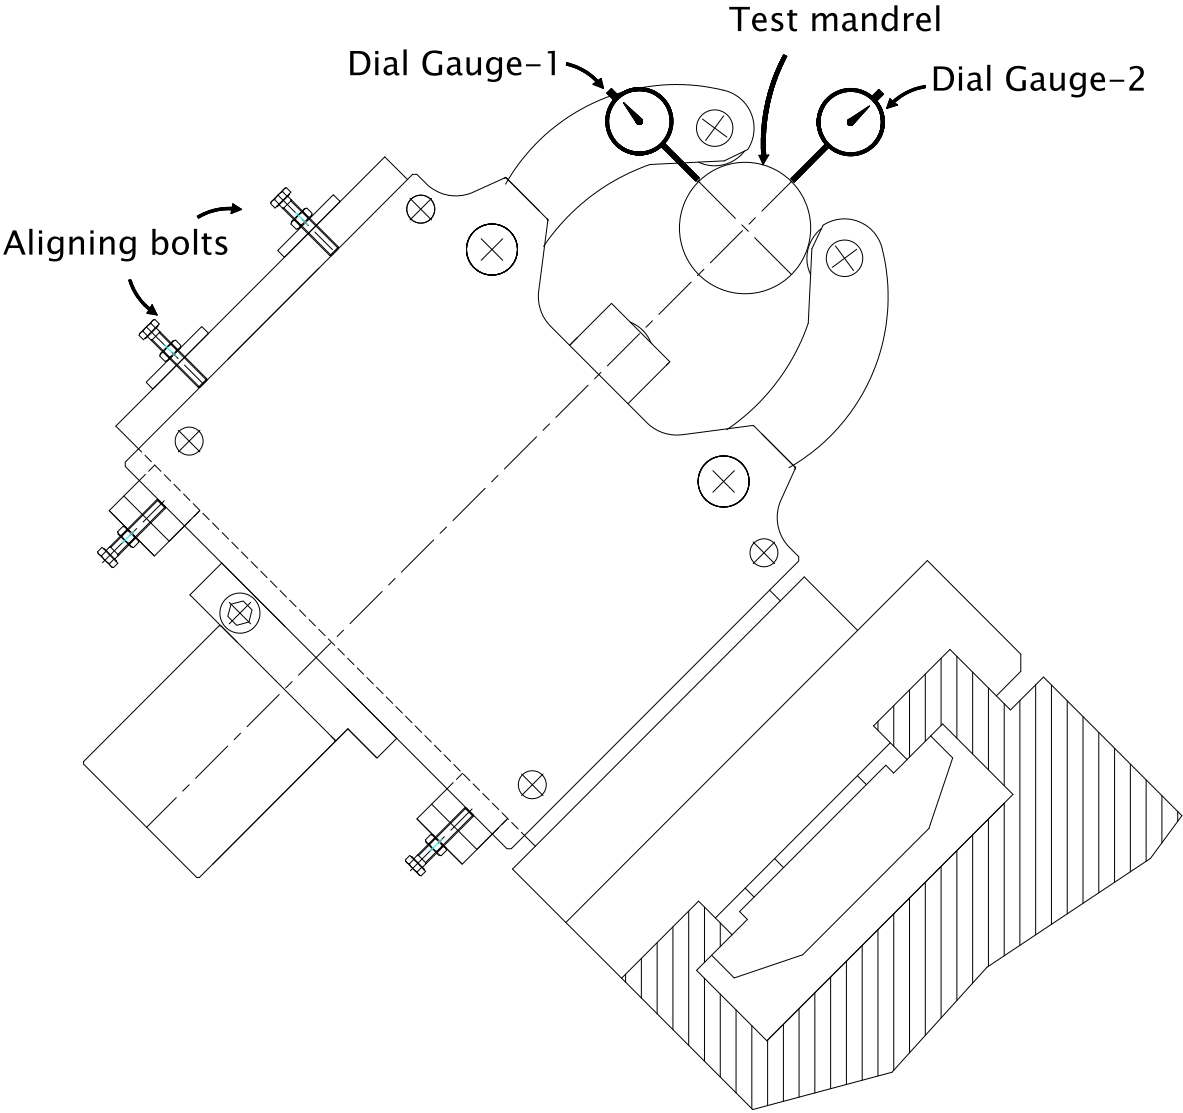

Fig. 21
- Place two dial gauges with a reading accuracy of 0.01mm as shown in Fig. 21 against the test bar and set to 0.